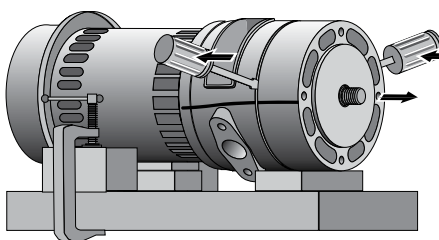

Figure 20
- Step 10. Carefully tap a small screwdriver or thin bladed chisel in between the intermediate volute and the pump adapter in two or three places around the pump to separate the castings (Figure 20). *Do not mar the sealing surfaces; do not break pieces out of the adapter or volute – the castings are easily damaged.*